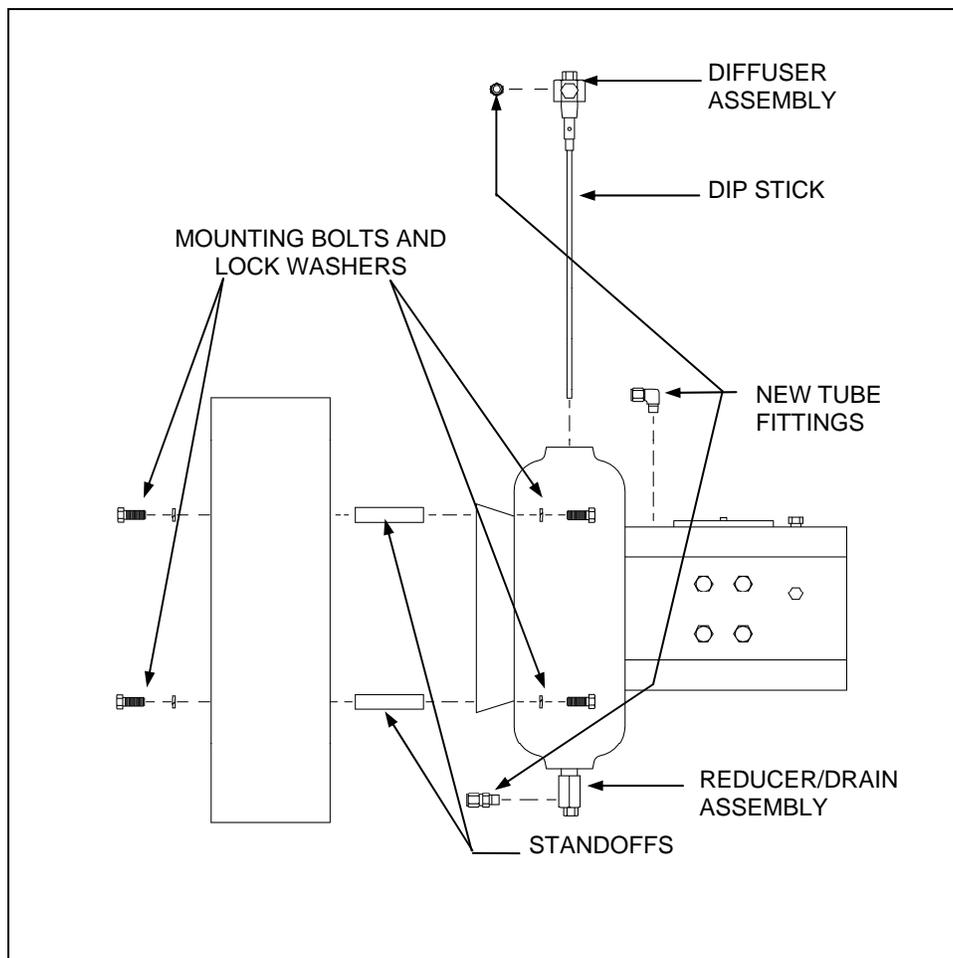

Figure 3: Installing New Control
1. Using 4 of the 8 mounting bolts and lock washers, install the four standoffs to the mounting bracket. Do not tighten the bolts (see Figure 3).
4. Apply an appropriate pipe sealant and install the new Reducer/Drain Assembly in the bottom of the Gas Hydraulic Tanks if applicable (see Figure 3)
20. Install new Swagelok® fittings in the Hand Pump, Actuator Upper Head, Limit Valve, poppet block control and tanks. Apply an appropriate pipe sealant to the threads. (See Figures 3, 6, 7, 9 and 10 and Hydraulic Schematic 8414-S or 8420-S)
21. Run tubing from the bottom of the Gas Hydraulic Tanks to the suction ports located at the bottom of the Hand Pump valve body. Right tank (CLOSE) to the right suction port and the left tank (OPEN) to the left suction port, as you are facing the New Hand Pump (see Figures 3 and 9).
22. Run tubing from the discharge ports located on top of the Hand Pump valve body, or optional Speed Controls, if applicable. The right side of the pump runs to the port on the right in the upper head of the Actuator (as you are facing the new Hand Pump). The left side of the pump runs to the port on the left in the upper head of the Actuator. Make sure you are using the ports in the upper head closest to control box, not the ones on the far side (see Figures 3, 9 and 10A or 10B).
23. Run tubing from the CLOSE cylinder port of the Poppet Block Control Valve to the port in the Diffuser assembly on top of the closing Gas Hydraulic Tank (see Figure 3 and 10).
24. Run tubing from the OPEN cylinder port of the Poppet Block Control Valve to the port in the Diffuser Assembly on top of the opening Gas Hydraulic Tank (see Figure 3 and 10).